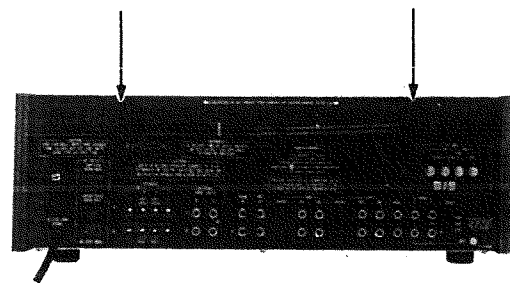

Figure B1
- Remove two screws from the upper Back Panel as shown in Figure B1.